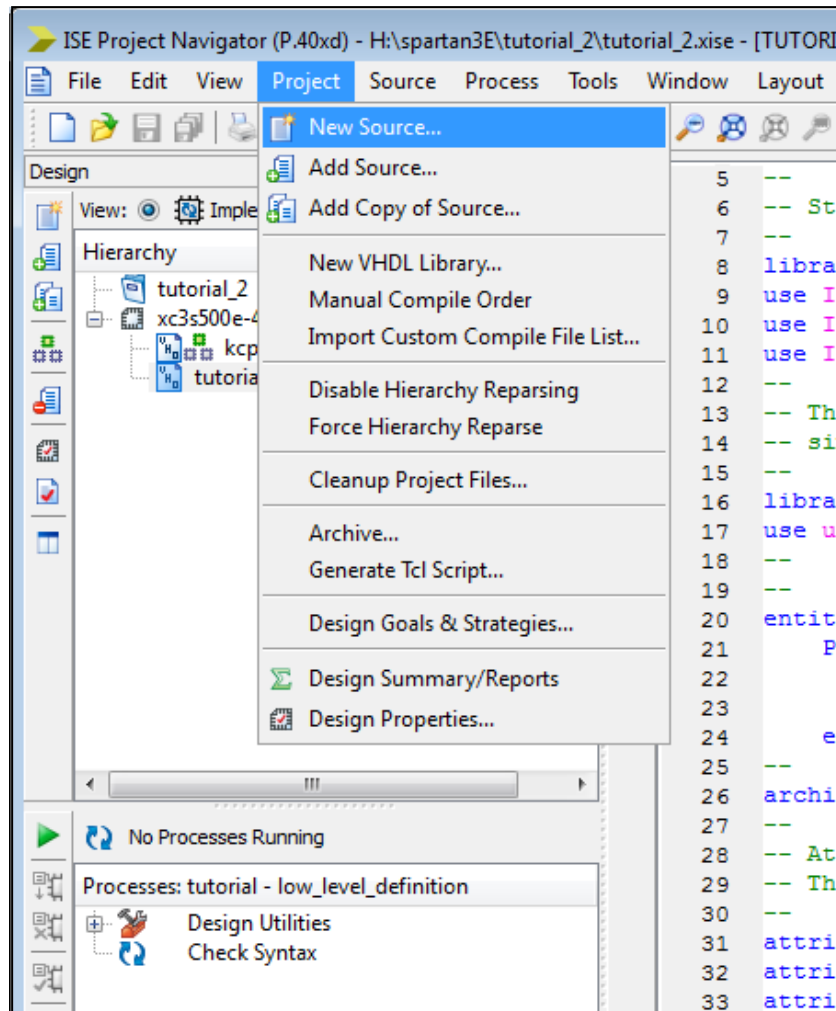

Figure 5.12: Adding a source file to the project.
1. Select **Project**→**New Source** as shown in Figure 5.12. The **New Source Wizard** will appear.